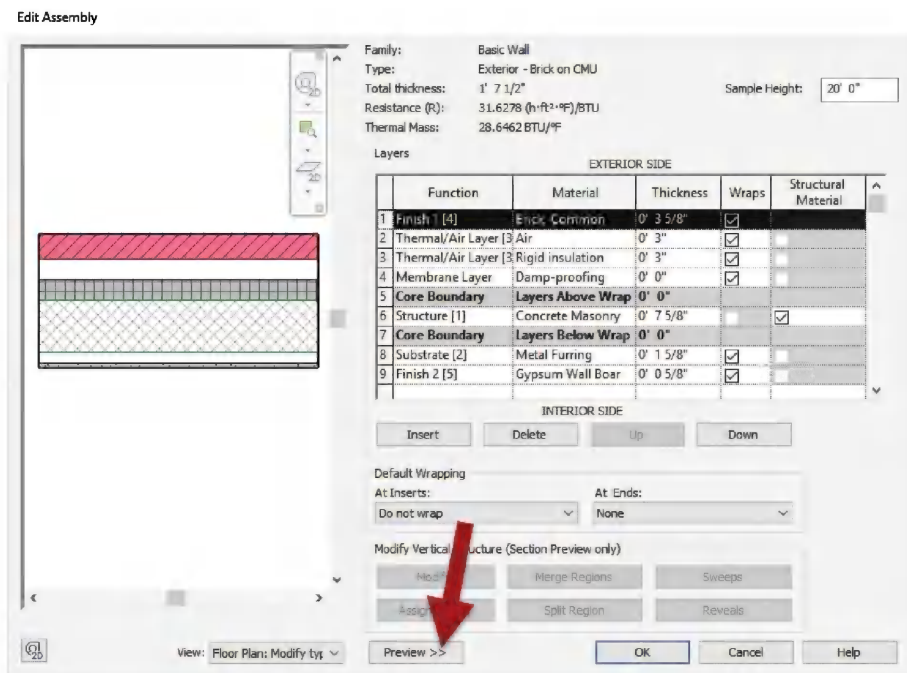

FIGURE 3-2.5 Edit Assembly
7. Finally, you are in the *Edit Assembly* dialog box. This is where you can modify existing wall types or create new ones. Click **<<Preview** to display a preview of the selected wall type (Figure 3-2.5).
Things to notice in the *Edit Assembly* dialog box (Figure 3-2.5):